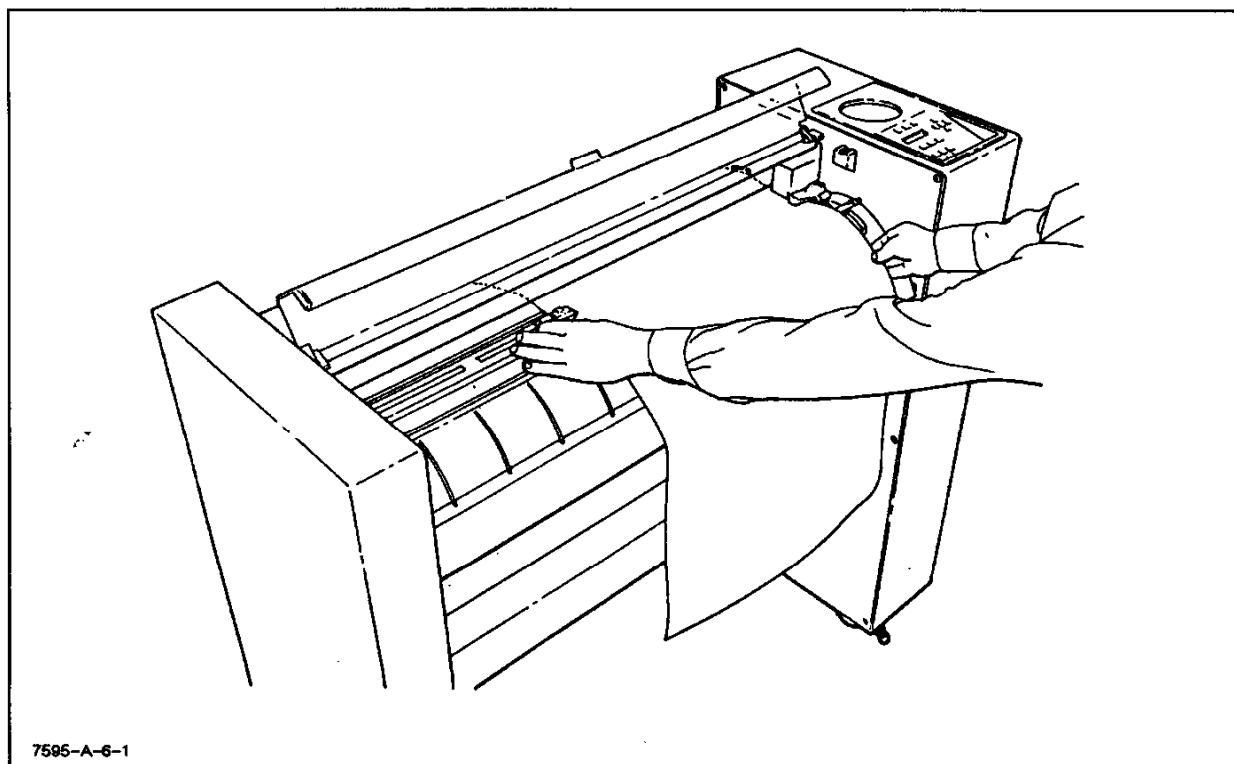

Figure 3-6. Loading Sheet Paper
- a. Turn the plotter LINE switch to Off (O).
- b. Raise the plotter window to the standing position. See Figure 3-6.
- g. Lower the plotter window and turn the LINE switch to ON (I).